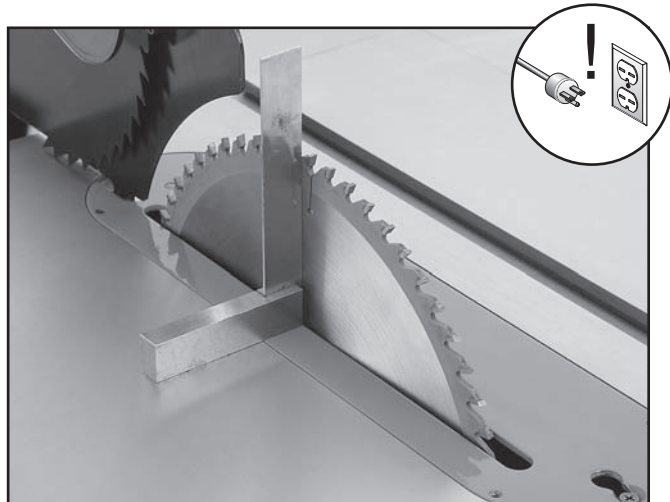

Figure 59. Checking blade angle to table.
3. Place a 90° machinist's square between the teeth on the blade and on the table surface, as shown in **Figure 59**.